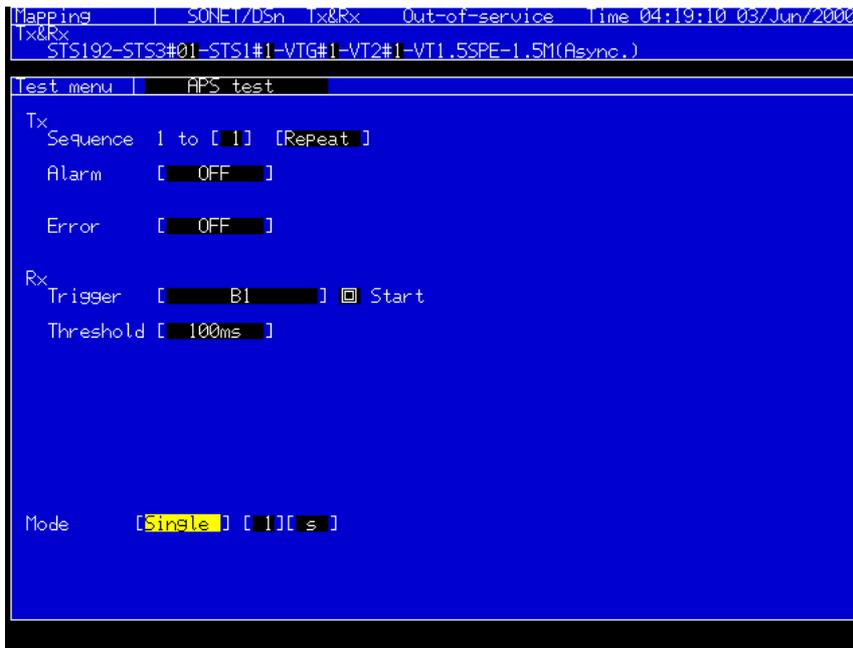

Figure 2.4: TEST Menu Screen parameter setting
(3) Test Menu Screen:
- Select the parameters as in **Figure 2.4** below of the example